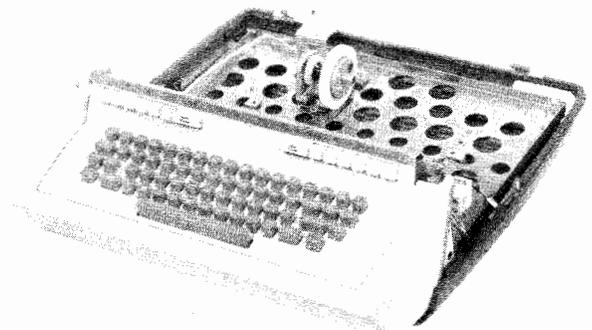

Figure 1 - 37 Keyboard Unit
1.01 This section provides disassembly and reassembly information for the late design, 11-contact 37 keyboard unit (Figure 1). It is reissued to incorporate engineering changes and other comments received on Issue 1. Since only a limited distribution was made on Issue 1, marginal arrows have been omitted.
1.04 References in the procedures to left or right, up or down, top or bottom, etc refer to the unit viewed with the keytops and controls facing the front (Figure 1).